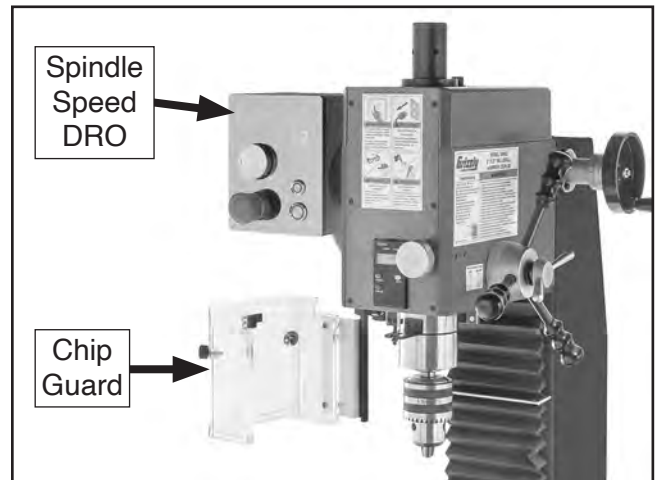

Figure 24. Chip guard pivoted away from chuck.
13. While being careful to avoid rotating chuck and spindle, pivot chip guard forward and away from chuck (see **Figure 24**). Spindle will stop rotating and "Err" will blink on spindle speed DRO.